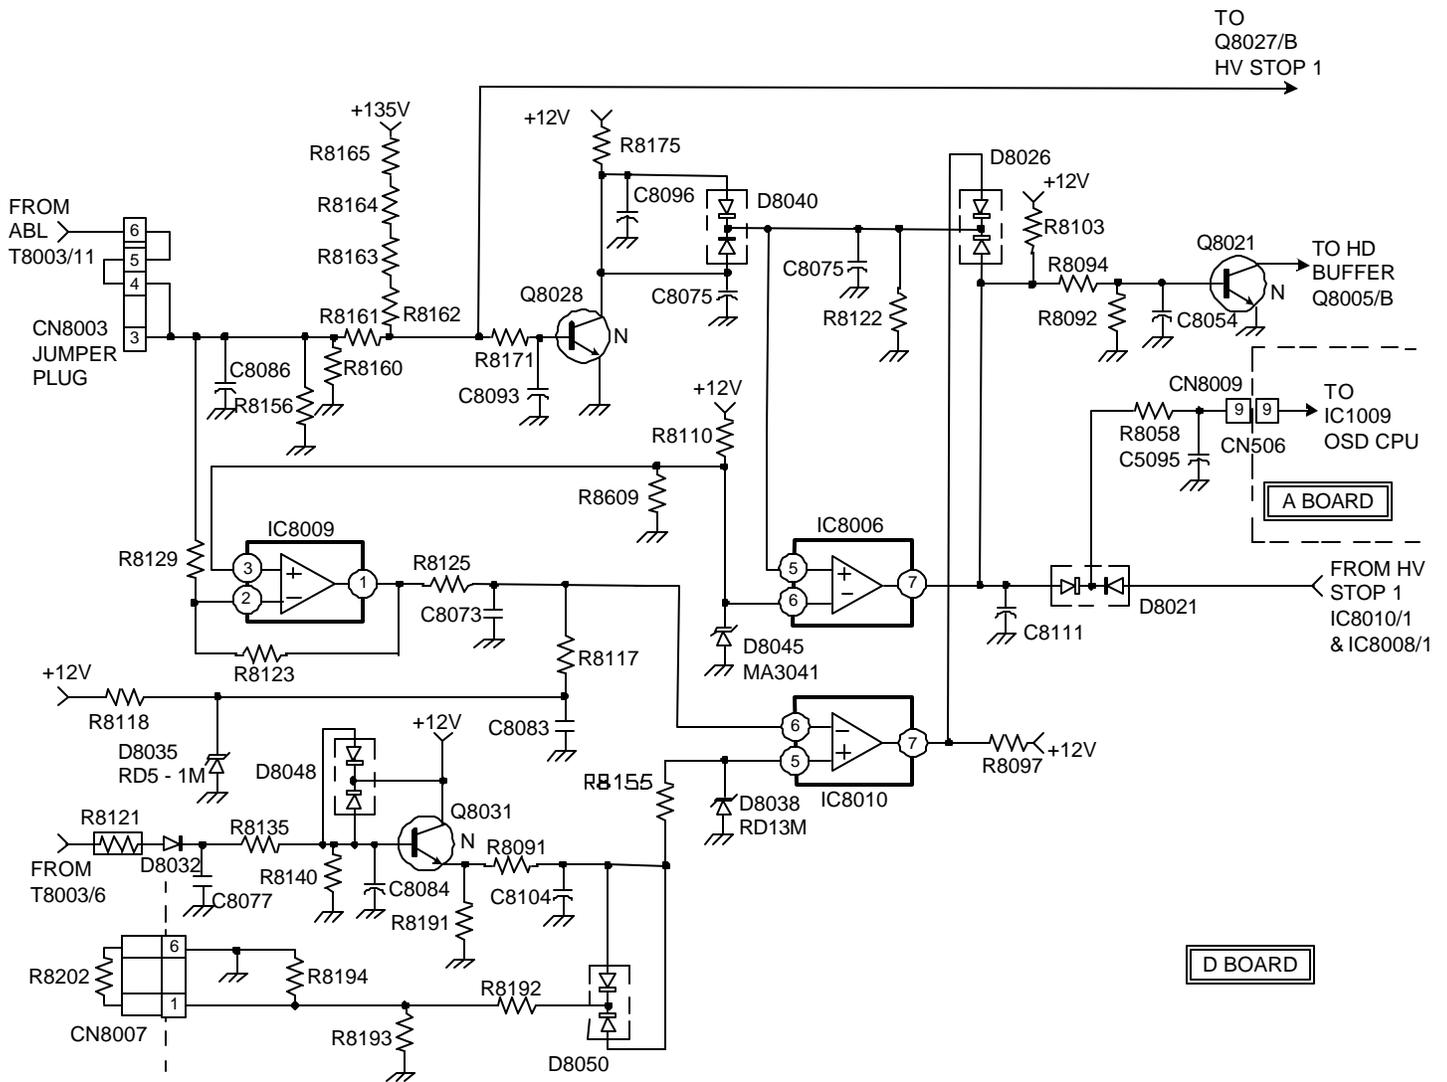

FIGURE 11-6 - HV STOP 2
HV Stop 2: Referring to Figure 11-6, the second HV protect circuit is shown. It functions in a similar manner as HV stop 1 with a few differences. Q8031 monitors voltage from the flyback transformer rather than the HV block assembly. Pin 5 of IC8010 will receive this signal and, instead of comparing it to a fixed reference, the ABL voltage is used. The reason behind this design is to shut down the high voltage quickly if it is rising and flyback current is simultaneously increasing. This severe condition can damage multiple components. The ABL voltage at pin 6 will drop, while the HV sample at pin 5 increases. Q8028 will monitor flyback current in the same manner as HV stop 1.
**Troubleshooting Tips:** Since there are two sets of protect circuits, isolating which one is activating is the first step. This is easily accomplished by monitoring either anode of D8021 in Figure 11-6 to determine which circuit is sending the high signal. This may only be useful if a problem exists within one of the devices in either protect circuit. A legitimate high voltage problem may trigger both protect circuits. If high voltage and current levels have been absolutely verified to be within specifications, this is the only time when it is safe to defeat these circuits for troubleshooting purposes in order to locate the component causing the false shutdown.